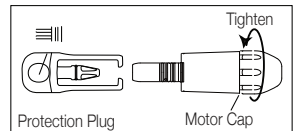

Fig.10
- 4) Screw the Motor Cap to the Motor. Put the protection plug to the motor insert. (Fig. 10)